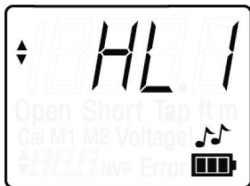

Figure 4-7. Tone mode with HLI cadence.
3. Press the TONE button. The LCD display screen updates with the following symbols and icons (see Figure 4-7):